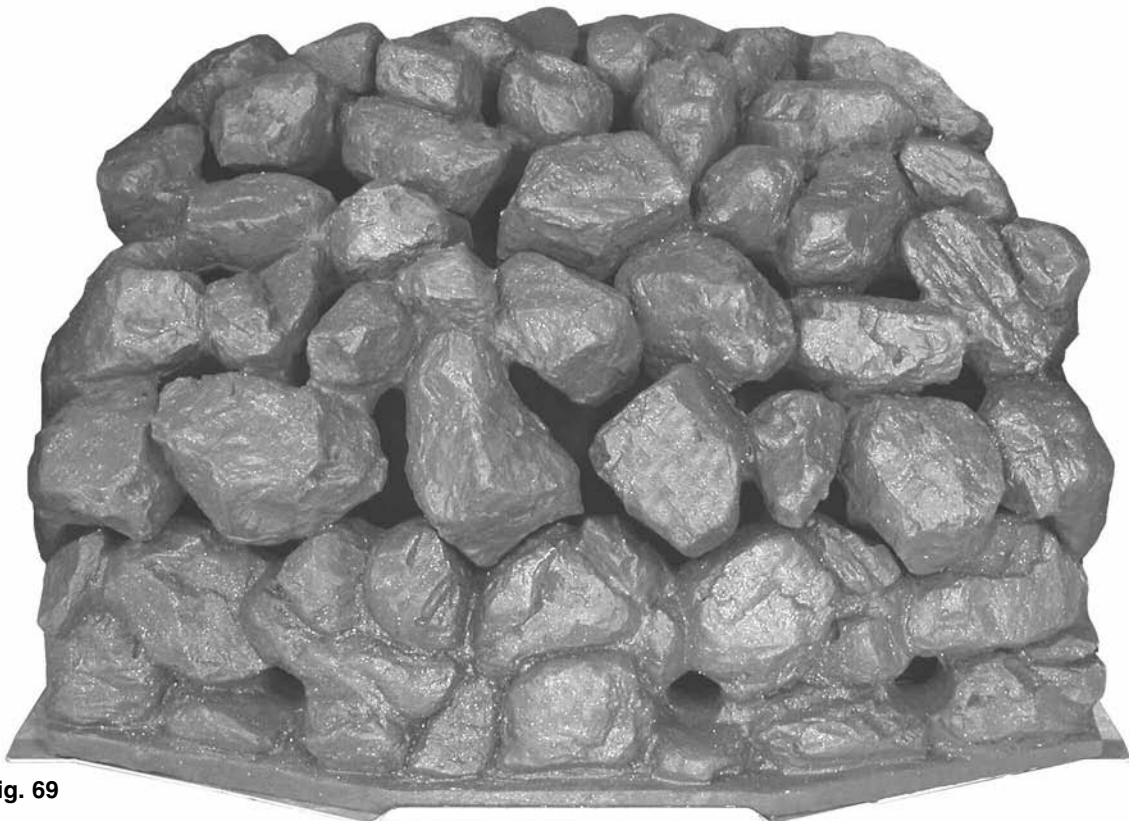

Fig. 69
5. Finally check that all the coal pieces are 'nested' together correctly (Fig. 69).